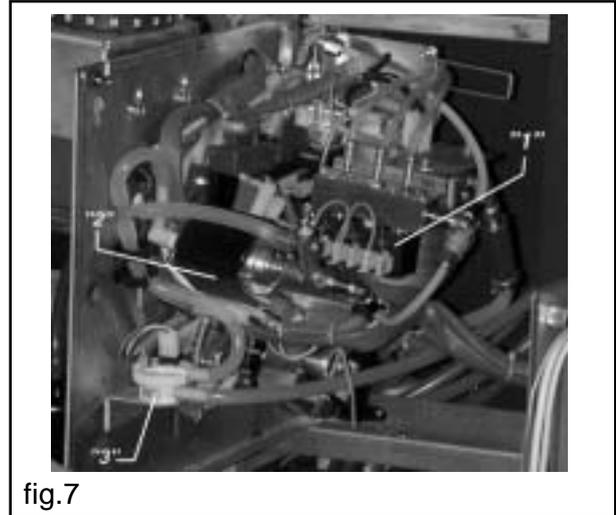

fig.7
- controlled by the appropriate electronic device (volumetric counter - ref. '3' fig.7), the pump dispenses the preset quantity of water sucked from the coffee boiler.